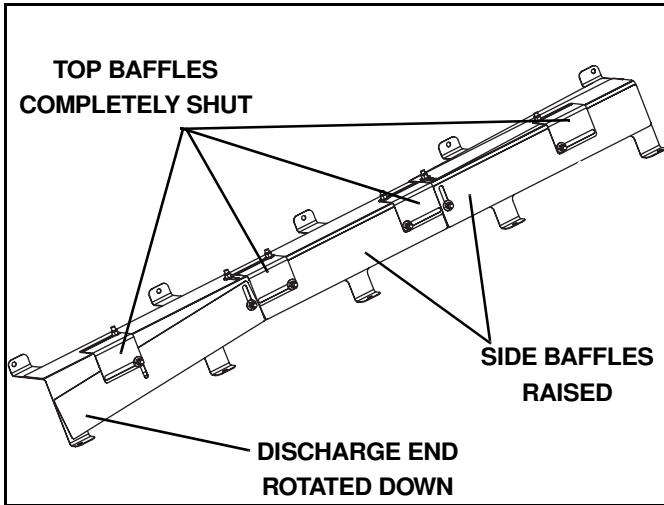

Figure 1-5
B. Sectional Design - Top baffles closed and side baffles fully raised except for the section closest to the discharge end. The section nearest the chute should be rotated to prevent excess material from flowing out of the spreader during transport. If more restricted flow is desired, the remaining side baffles can be lowered (See Figure 1-5).